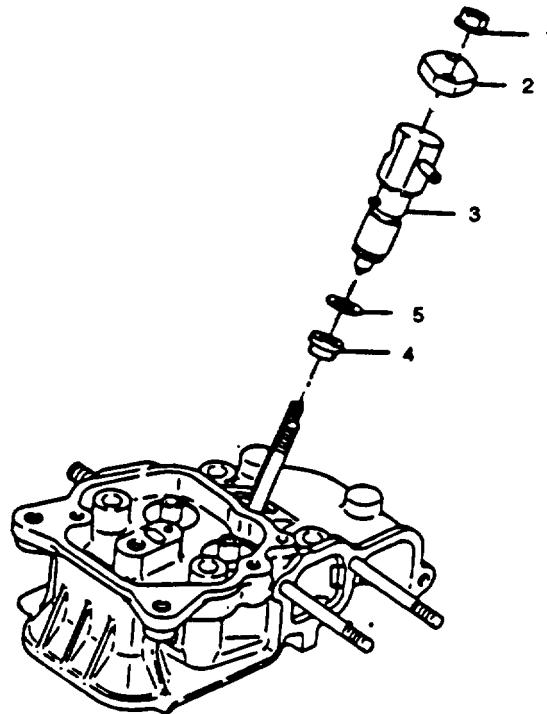

Figure 5-6. Replace Fuel Injection Nozzle
a. Removal. (Refer to Figure 5-6)**CAUTION**